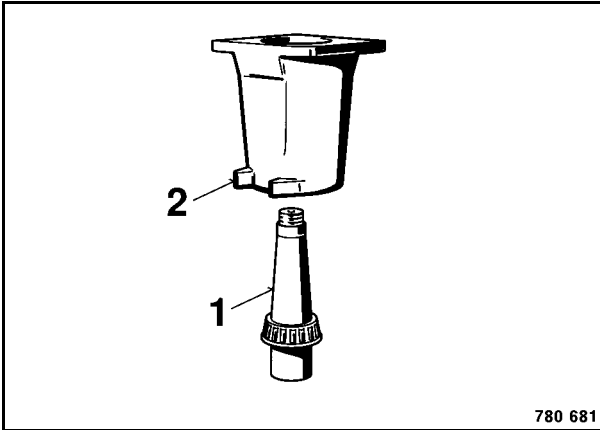

Fig. 4
6. Insert the oscillation axle 1 (Fig. 4) with taper roller bearing into bearing housing (2).